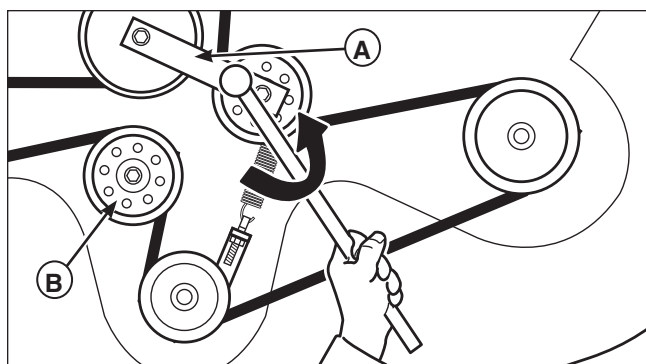

Figure 45. Release Belt Tension
1. Using a 1/2" breaker bar, place the square end in the square hole located in the idler arm (A, Figure 45). Carefully rotate the breaker bar COUNTER-CLOCKWISE, which will relieve the tension on the belt exerted from the idler arm. Slide the belt off the stationary idler pulley (B).